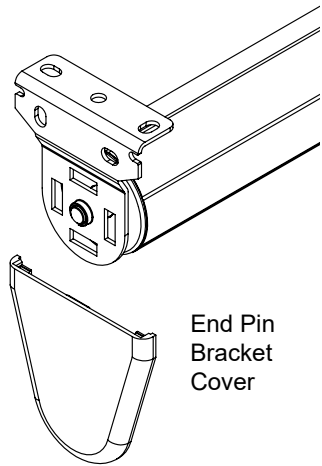

**Figure 11A.** End Pin Bracket
**Step 7.** To install, insert the heavy duty end pin side of the tube into the center hole of the wall bracket shown in **Figure 11A**. While putting pressure on the spring pin, install the motor end onto the other bracket. The spring pressure will allow the tabs on the motor end to seat into the bracket as shown in **Figure 11B**.